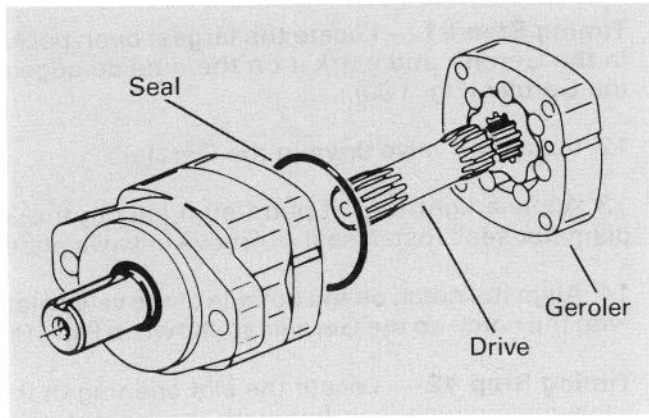

Figure 95
14. Remove the Geroler. Be sure to retain the rollers in the outer ring if they are loose (Fig. 95).
15. Remove the drive (Fig. 95).
16. Remove the 3" diameter seal from wear plate (Fig. 95).